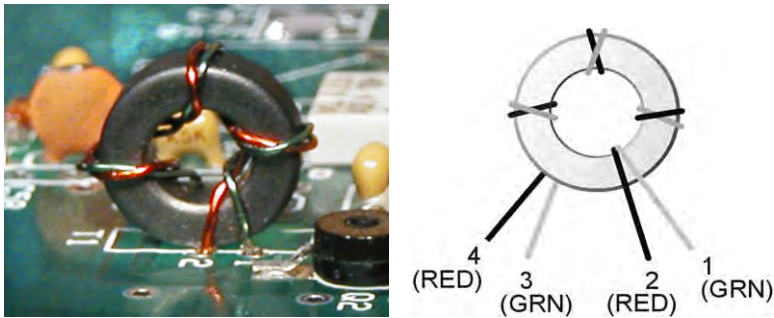

Figure 25. Installing T1.
- Wind 4 turns of the twisted pair on the FT37-43 toroid core as shown in Figure 25 on the next page. Each time the wire passes through the center of the core counts as one turn, so verify that the wires pass through the toroid four times. Spread the turns around the core as shown.
Insert the tinned leads in the holes on the PCB and position the toroid as shown in Figure 25. Be sure the correct lead goes to each hole. Use a magnifier to check the following: